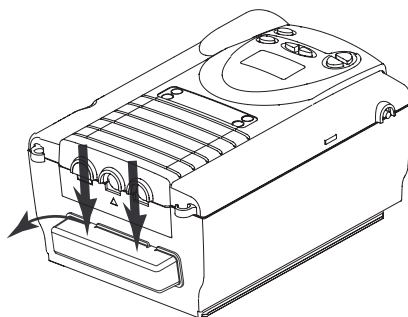

Figure 9-1 Removing the Filter
2. As shown in Figure 9-1, remove the filter cap by gently pressing down on the top panel and pulling the cap out, away from the device.